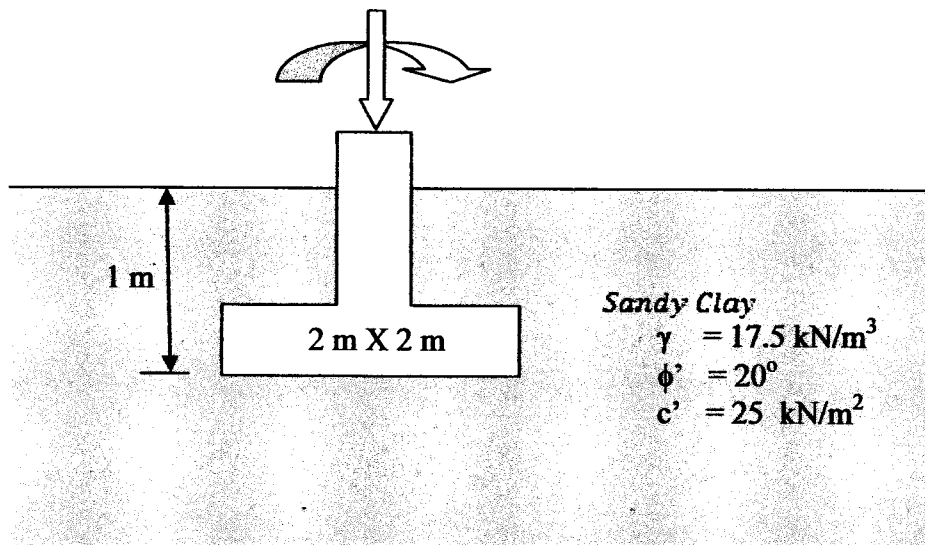

FIGURE Q3(b)
- (b) An eccentrically loaded 2 m X 2 m foundation is shown in **Figure Q3(b)**.
- (b) Explain in details any **THREE (3)** types of piles and their structural characteristics. (6 marks)